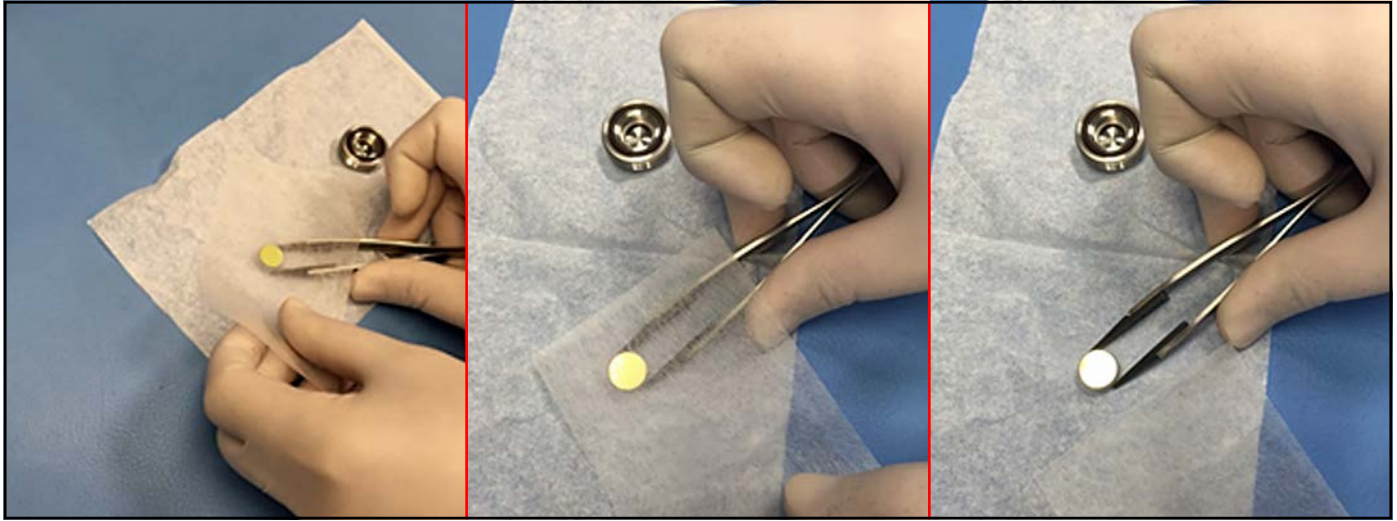

Figure 96: Cleaning a Contaminated Mirror
7. Place the wet lens tissue on top of the mirror and drag it horizontally across the surface of the mirror, while holding it on with a pair of plastic-tipped tweezers (see *Figure 96* below). Ensure that minimal liquid residue or streaks are left behind on the mirror surface.